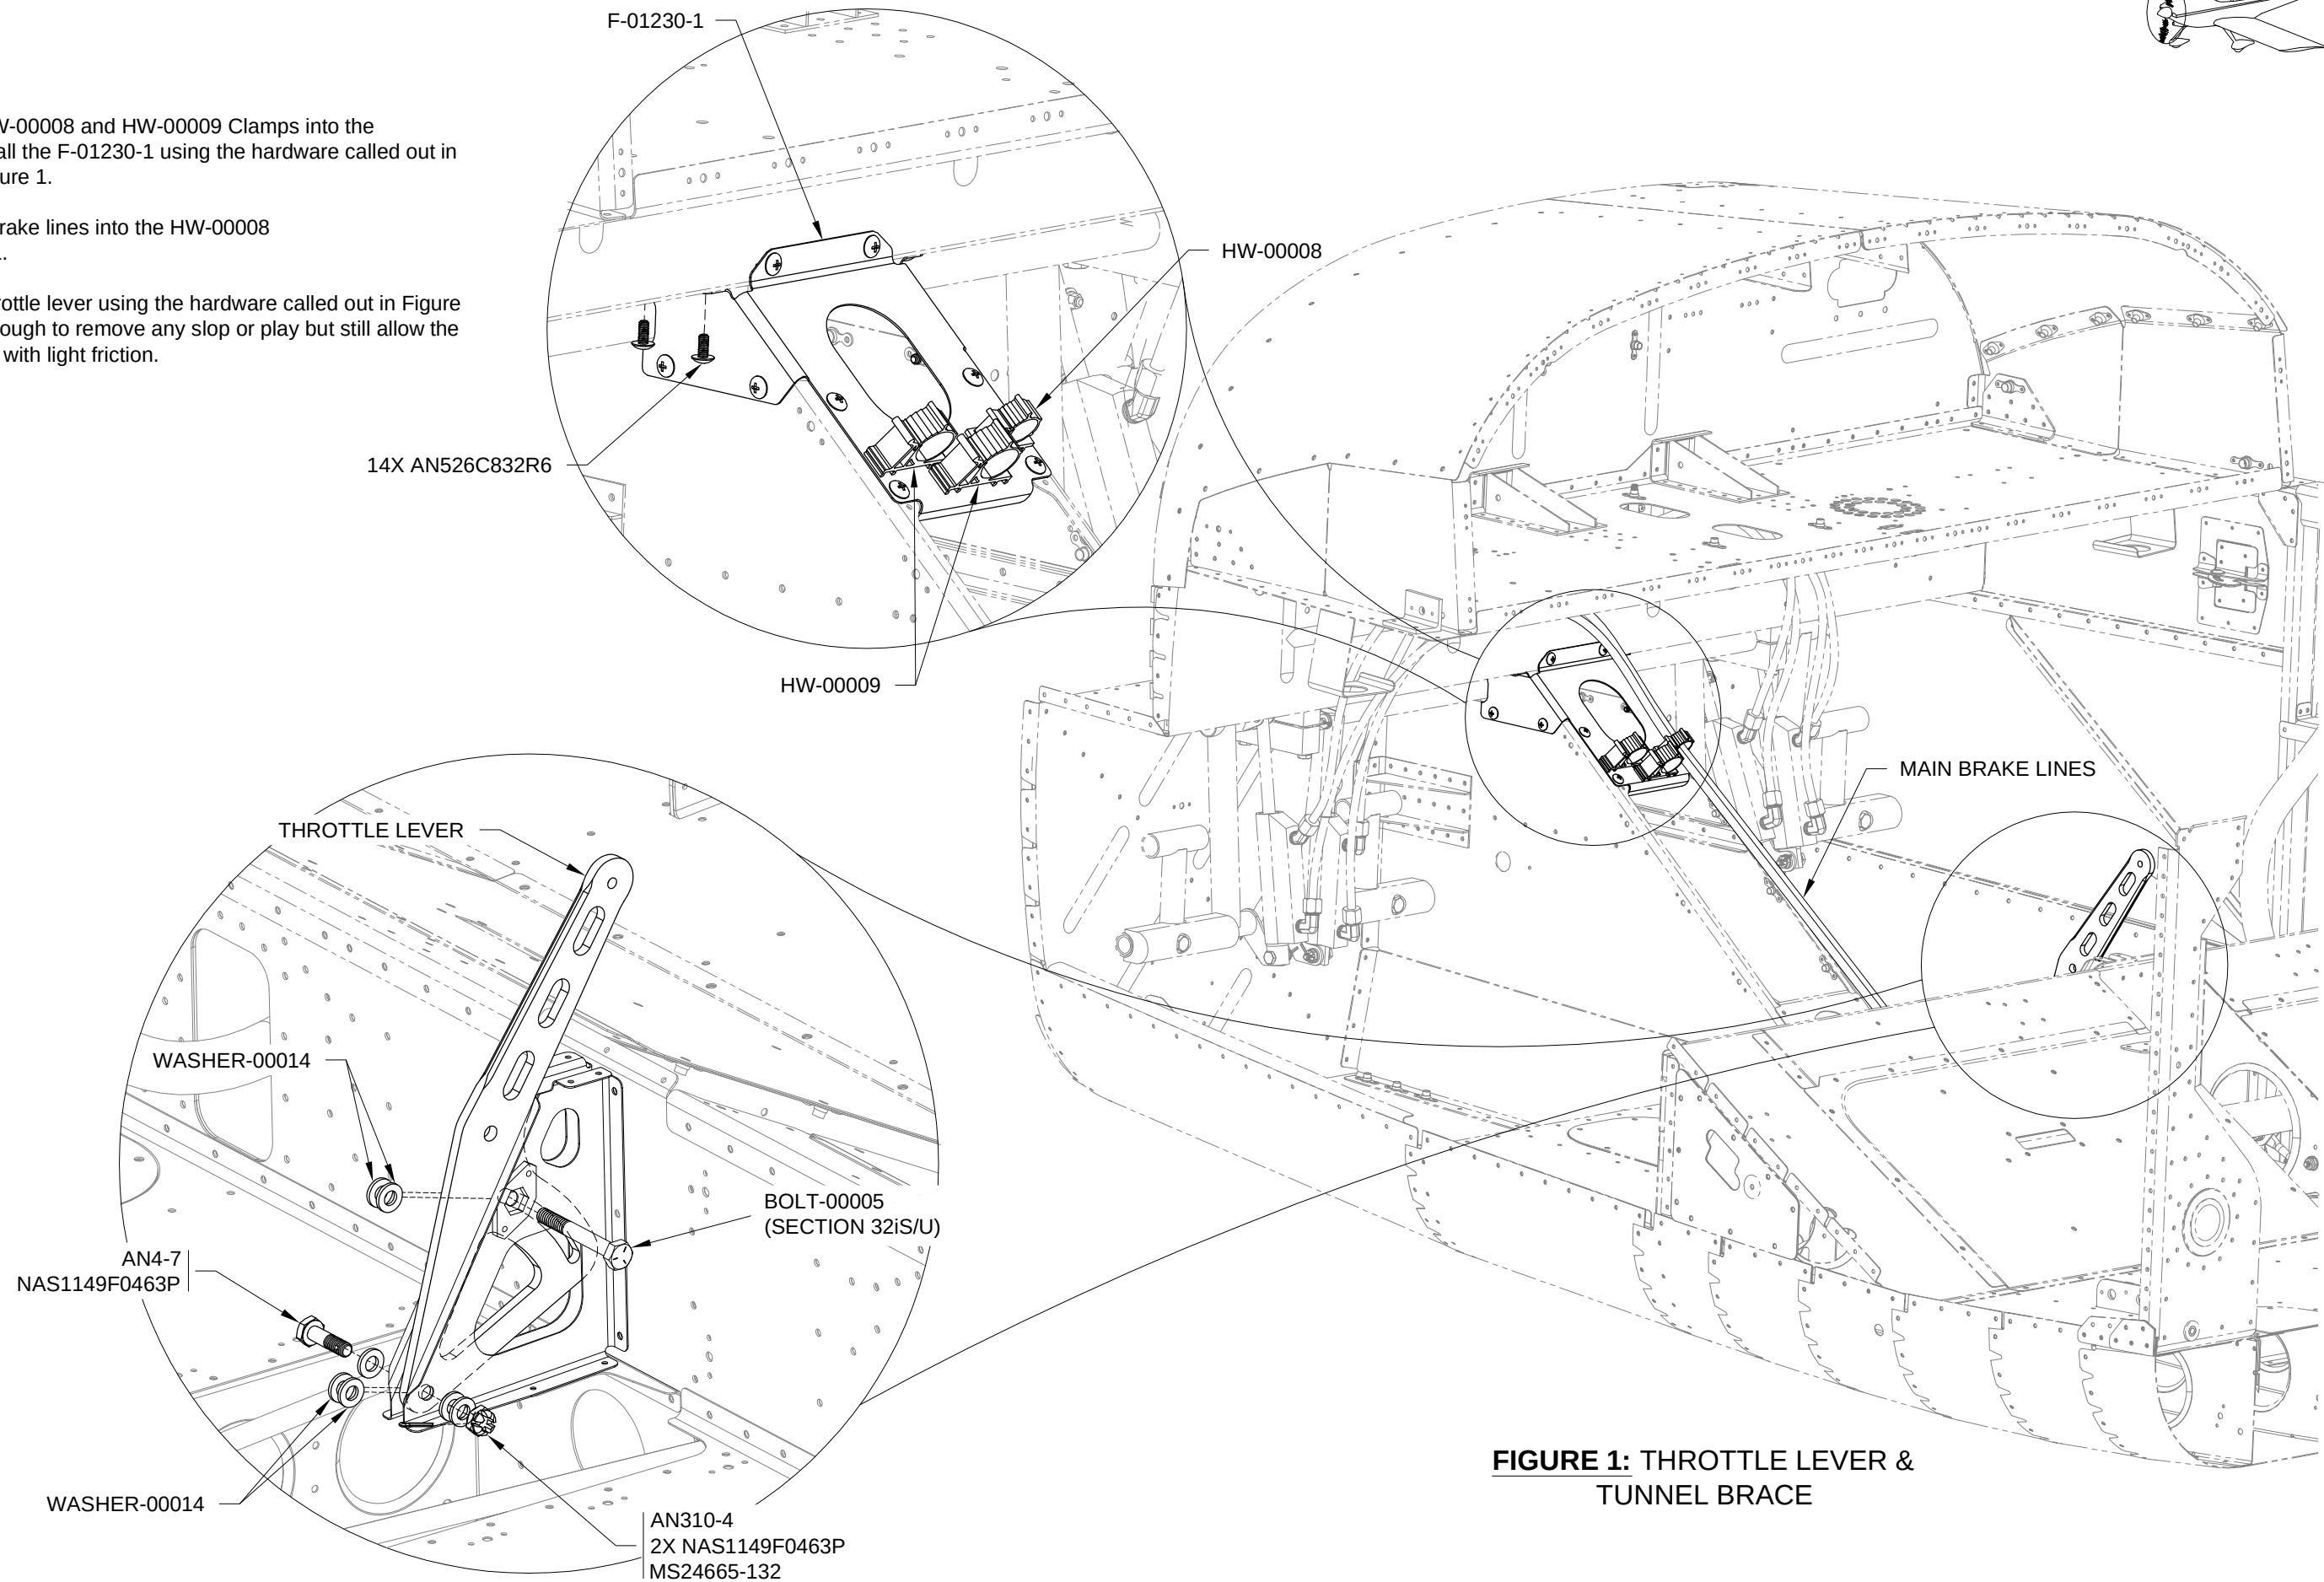

FIGURE 1: THROTTLE LEVER & TUNNEL BRACE
Place the the main brake lines into the HW-00008 as shown in Figure 1.
Step 2: Install the throttle lever using the hardware called out in Figure 1. Tighten the nut enough to remove any slop or play but still allow the throttle lever to pivot with light friction.
Step 1: Rivet the Tunnel Cover Assembly to the fuselage using the fasteners called out in Figure 1.